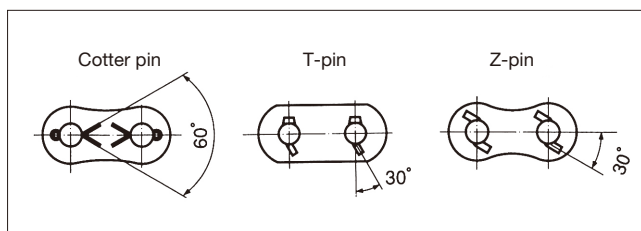

Fig. 22 Cotter pin angle of spread
- 6) See Fig.22 for cotter pin tine angle.